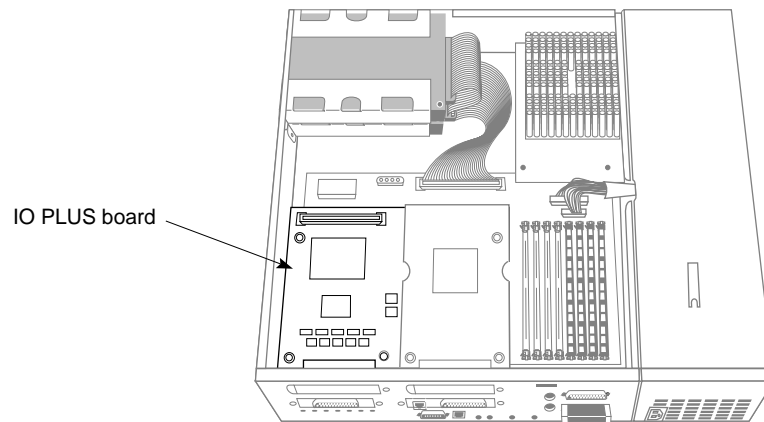

Figure 9-7 Locating the IOPLUS Board With a GIO Option Board Installed
5. Move the system or position yourself so that you are facing the rear of the system, as shown in Figure 9-7.
There might be one double-width GIO option board, or one single-width board, or two single-width boards installed on the IOPLUS or GIO extender board. Figure 9-7 shows one single-width GIO option board installed.